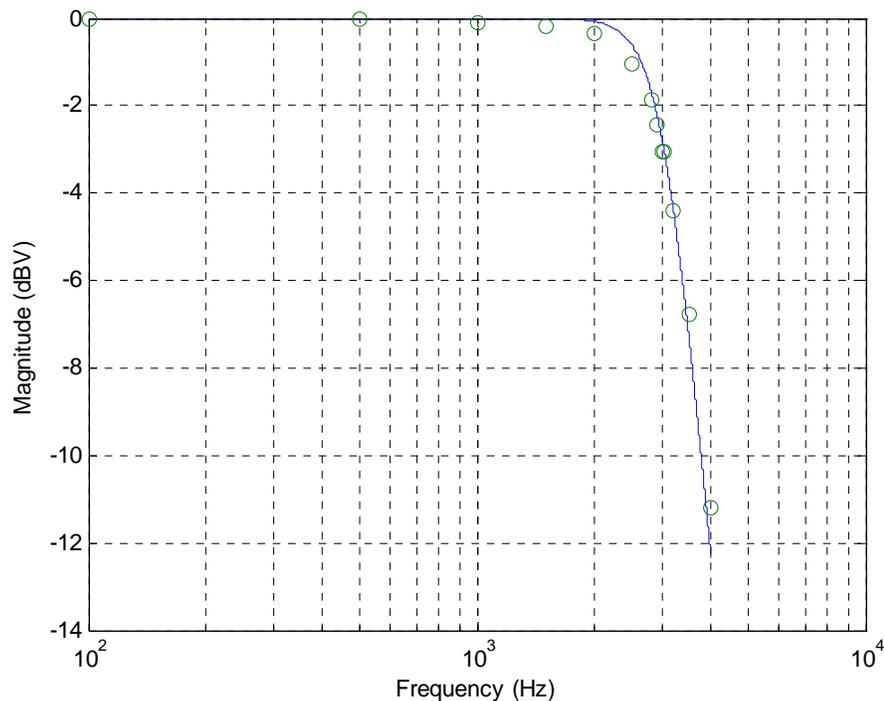

Figure 1: Predicted and measured frequency response.
f) Using Matlab, plot the magnitude of the filter transfer function (in dBV) versus frequency (in Hz), and include your measured points on the graph. Commands that may be helpful here include **linspace**, **logspace**, **freqs**, **log10**, and **semilogx**. An example plot is given in Figure 1.